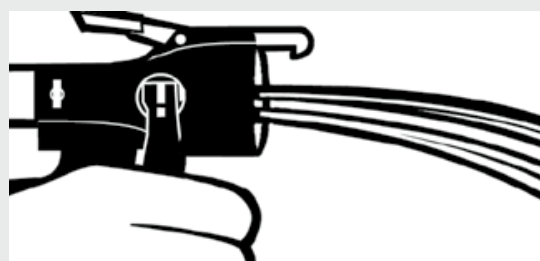

Figure 4.
- Purge the system into a waste container by activating the trigger of the Insta-Flo™ Dispenser. When both streams appear equally from the front of the gun, release the trigger, clean the chemical from the dispenser face with a clean rag, and reapply petroleum jelly. (See figure 4)